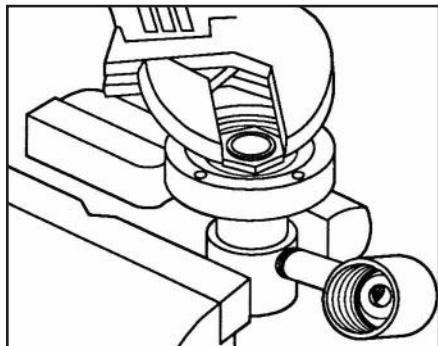

Figure 49
- 10.Clamp the oil chamber in the bench vise, and use the adjustable wrench to remove the faceplate locknut, spring retainer sleeve, and faceplate from the oil chamber. (Fig. 49 & 50)